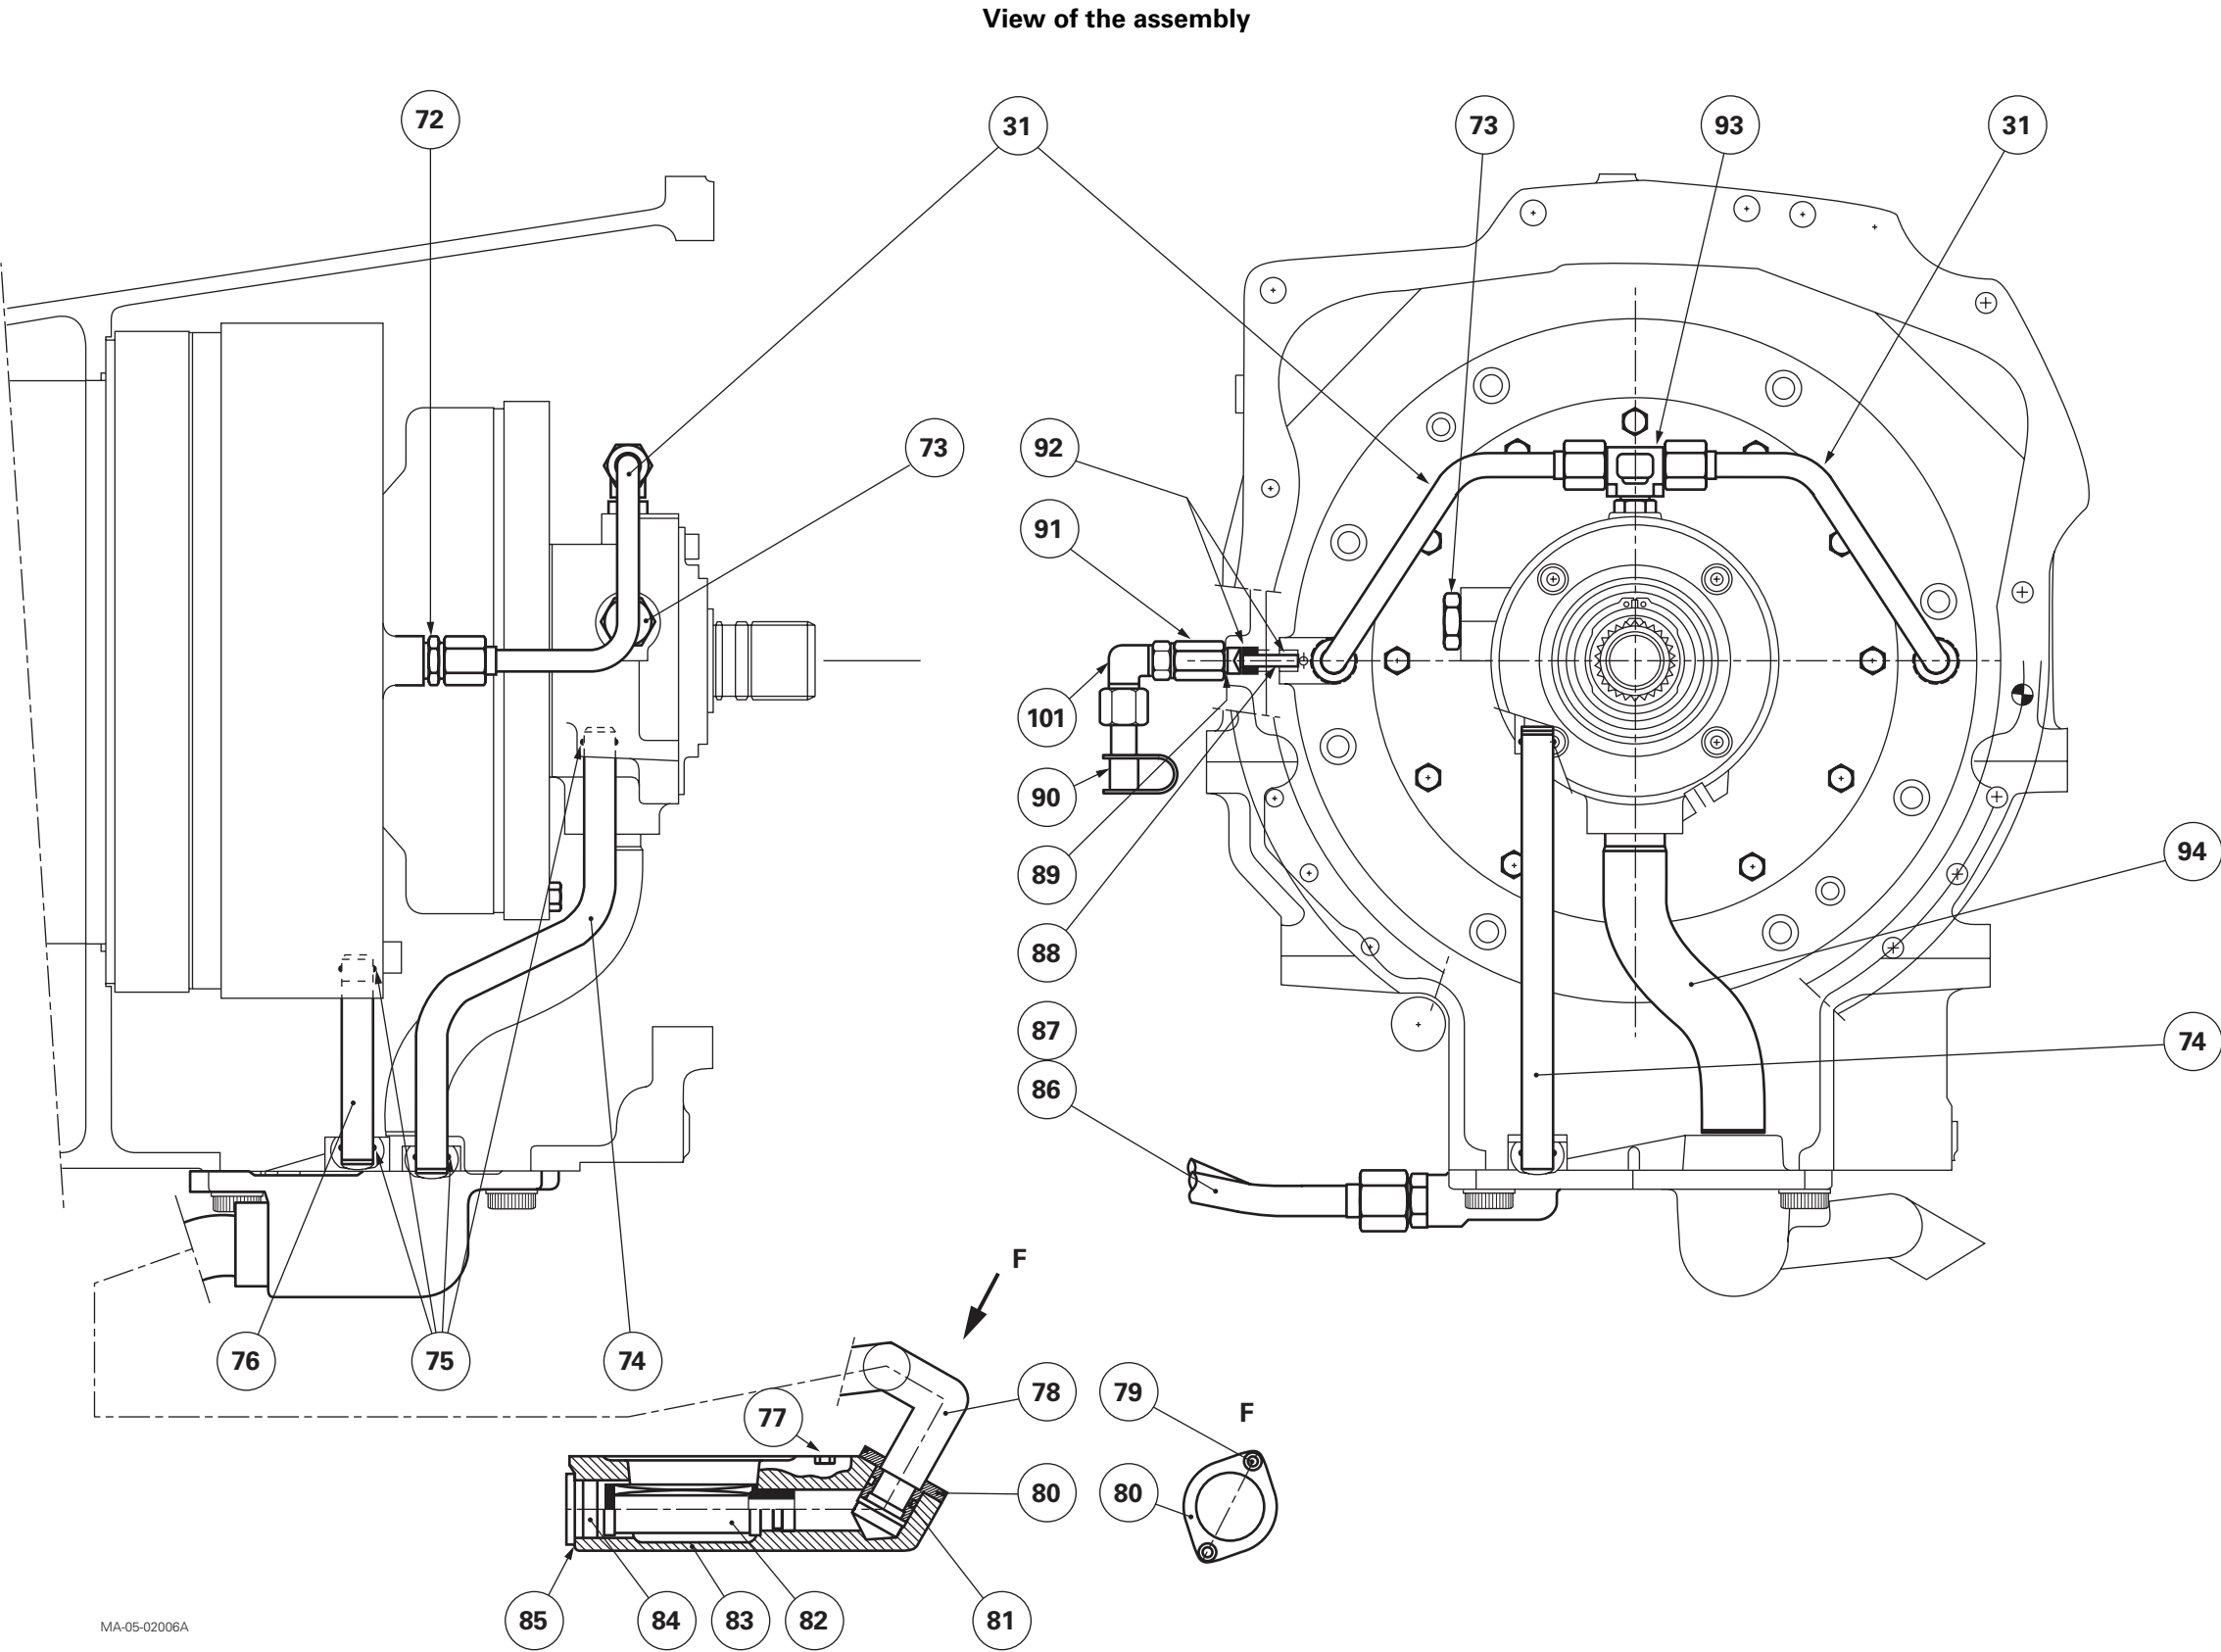

Fig. 3
Parts list (Fig. 2, Fig. 3, Fig. 4)
3. Remove the spacer (4) from the gearbox (see chapter 3).
4. Remove the pipes (86) and (87).
Detach and remove the cover plates (37) and (83), the flange (80) and the pipe (78) (Fig. 3).
5. Remove the pipes (31) (74) (76) (94) (Fig. 3).